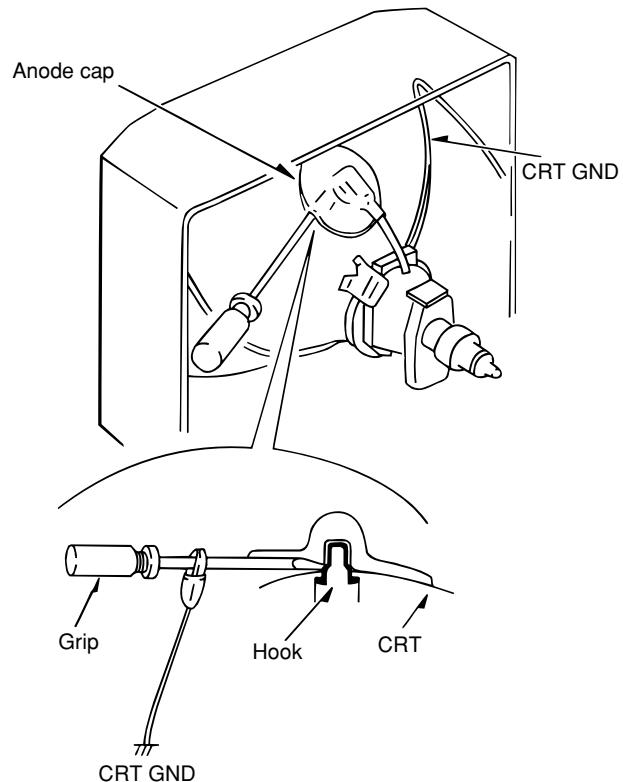

Figure 2-1
**Discharge the anode voltage. (See Figure 2-1)**
- (1) Connect a flat-bladed screwdriver to the CRT GND via an alligator clip.
- (2) Use a tester to check the end of the screwdriver and ground of the TV for continuity.
- (3) Touch the hook with the end of the screwdriver.
- (4) Turn over the anode cap.